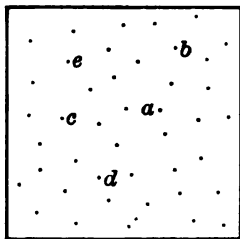

FIG. 3
**7. States of Matter explained.** — With these ideas in mind, a new explanation of the different states of matter at once presents itself. *Solids* may be regarded as those substances whose molecules do not move about freely or change their positions with relation to each other. To explain more fully: suppose *a*, *b*, *c*, *d*, and *e* (Fig. 3) to represent some of the molecules in a solid. Now while these may all vibrate constantly, moving to and fro, none of them, *a* for example, will change its position among the others by traveling to a new place, as *e* for example. It is because their molecules always stay in the same position among the rest that solid substances retain their shape.